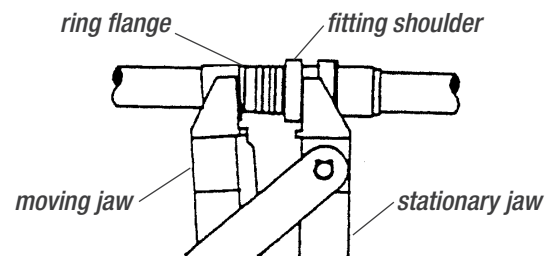

Figure 2
- Open the handles of the hand tool and place fitting in crimping jaws of tool, with stationary jaw in back of the fitting shoulder and moving jaw in back of the ring flange (Figure 2).